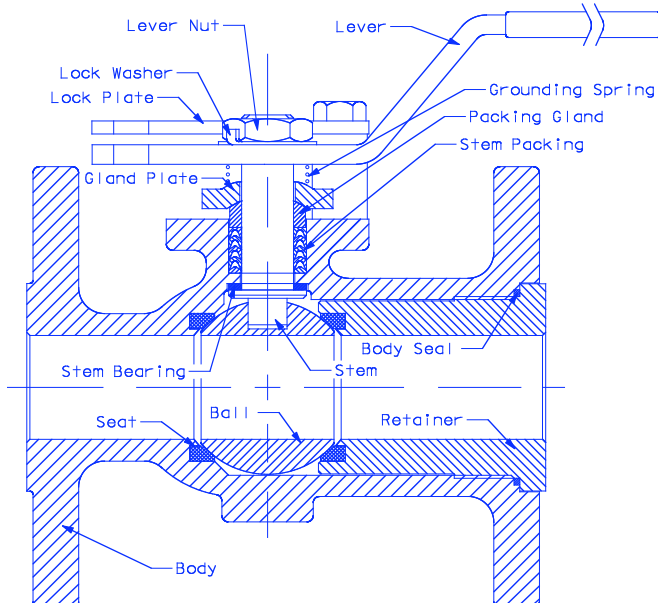

Figure 2: Typical One Piece Valve Assembly
- One Piece only** Insert the retainer seat and thread the retainer into the body. See Figure 2.